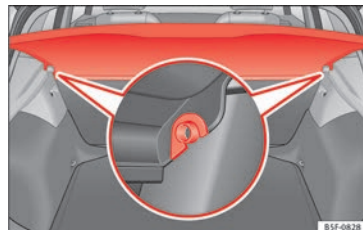

Fig. 160 In the luggage compartment: removing and installing the rear shelf.
- Remove the shelf from the side supports » **Fig. 160** pulling it up and out.
- Insert the rear shelf horizontally so that it coincides with the "plate" on the axis of the supports » **Fig. 160** and press down until it clicks into place.